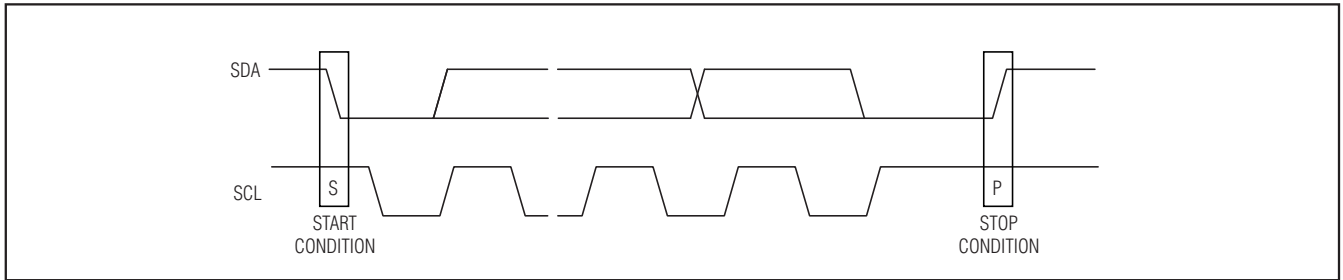
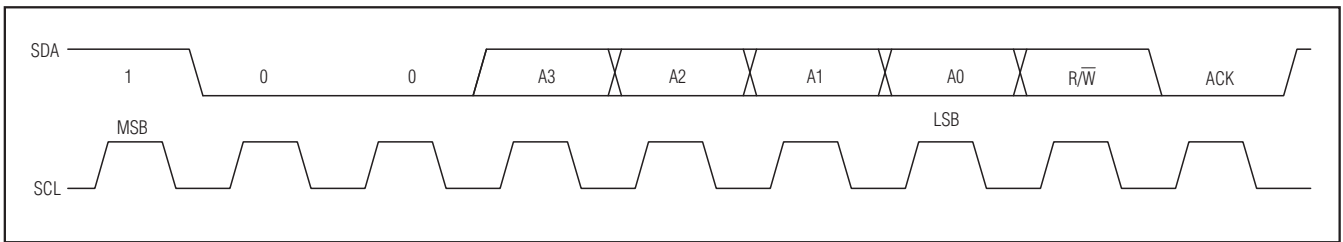

Figure 3. Standard Stop Conditions
Figure 6. Slave Address
Each transmission consists of a START condition (Figure 3) sent by a master, followed by the MAX6956 7-bit slave address plus R/W bit (Figure 6), a register address byte, one or more data bytes, and finally a STOP condition (Figure 3).
has finished communicating with the slave, it issues a STOP (P) condition by transitioning SDA from low to high while SCL is high. The bus is then free for another transmission (Figure 3).
The MAX6956 has a 7-bit-long slave address (Figure 6). The eighth bit following the 7-bit slave address is the  $\overline{R/W}$  bit. It is low for a write command, high for a read command.